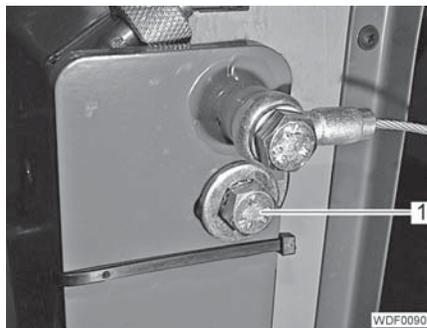

Fig. 78 Side attachment of the radiator
- Carefully tilt the radiator forwards until the screws (Fig. 78,1) slide into the guides on both sides of the radiator with 1 washer each.